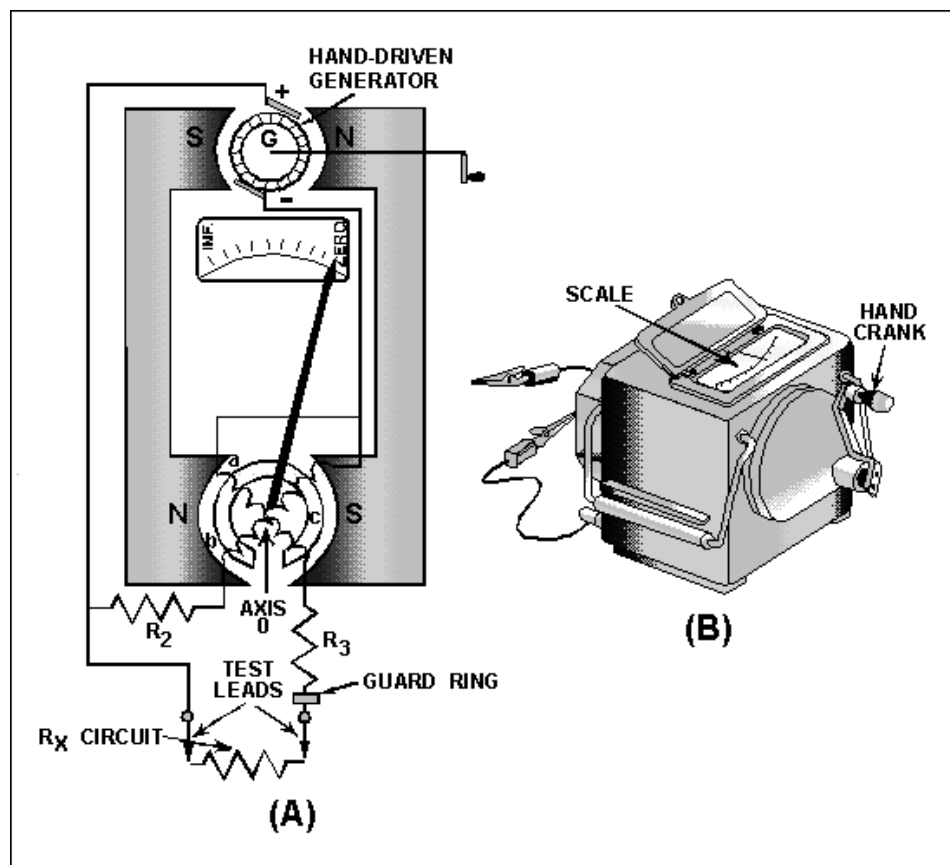

Figure 1-36.—A megger internal circuit.
An instrument called a **MEGOHMMETER (MEGGER)** is used for these tests. The megger (fig. 1-36) is a portable instrument consisting of two primary elements: (1) a hand-driven dc generator, G, which supplies the high voltage for making the measurement, and (2) the instrument portion, which indicates the value of the resistance being measured. The instrument portion is of the opposed-coil type, as shown in figure 1-36(A). Coils a and b are mounted on the movable member c with a fixed relationship to each other, and are free to turn as a unit in a magnetic field. Coil b tends to move the pointer counterclockwise, and coil a tends to move the pointer clockwise.
The external view of one type of megger is shown in figure 1-36(B).